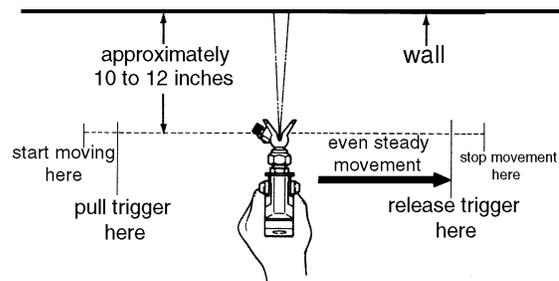
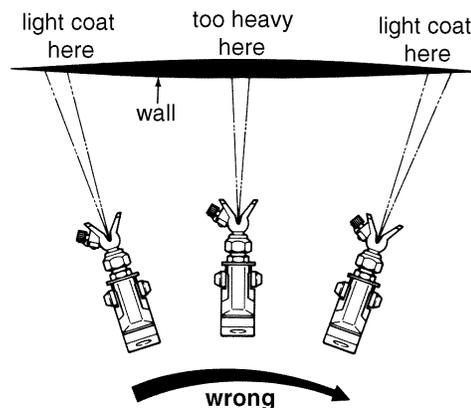

Figure 10. - Proper way to trigger spray gun.
Figure 11. - Result of flexing wrist while spraying.
- 2) **Move with a smooth arm stroke.** Move the gun at a steady even pace while keeping the gun perpendicular to the surface. (See figure 10) Do not move the gun by flexing your wrist. Fanning the gun will cause excessive overspray and uneven coverage. (See figure 11).